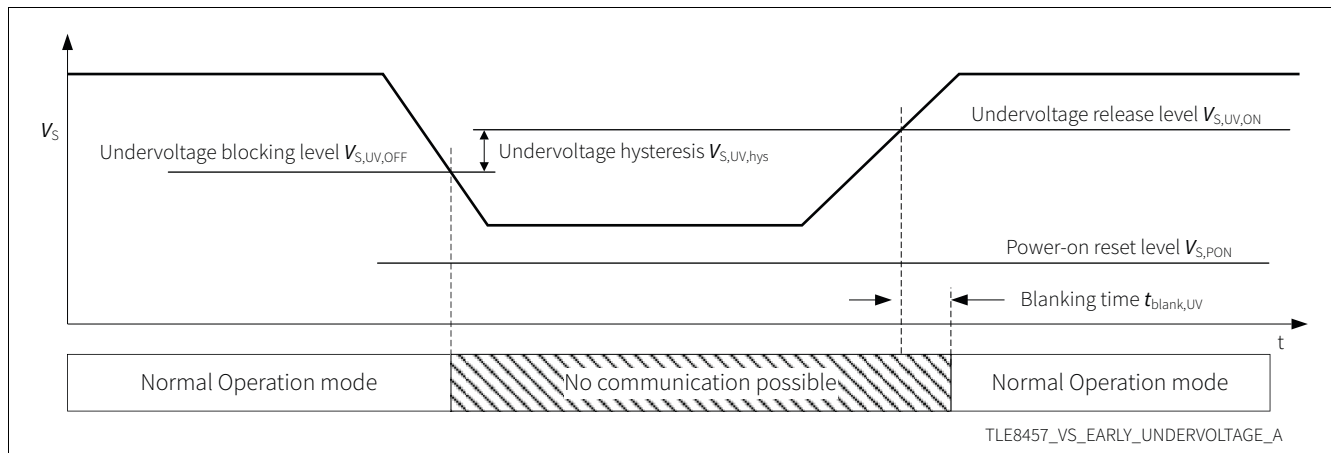

Figure 9  $V_S$  early undervoltage detection
- In Normal Operation Mode the TLE8457 blocks the communication between the LIN bus and the microcontroller when detecting an early undervoltage event. The RxD output will be set “high”. However, no mode change will occur. After  $V_S$  rises above the undervoltage release level  $V_{S,UV,REL}$ , the bus communication interface will be released when the signal on the TxD input goes “high”. See Figure 9.